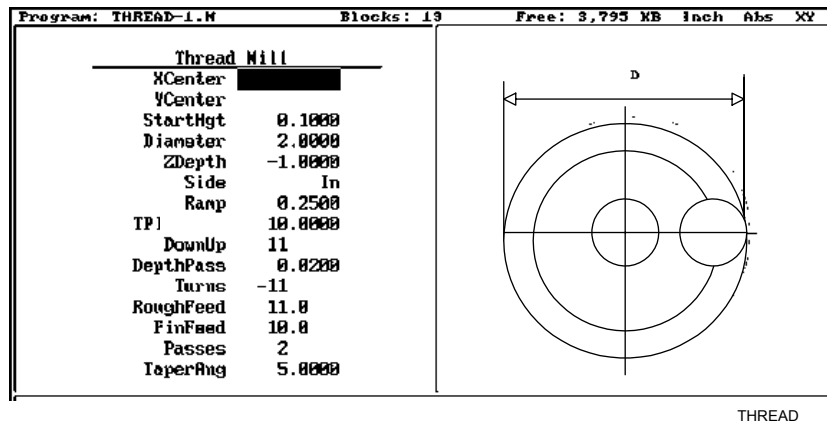

Figure 4-8, Thread Mill Graphic Menu
2. Select **Thread Mill** from the pop-up menu, and press **ENTER** to display the **Thread Mill** Graphic Menu. Refer to **Figure 4-8**.